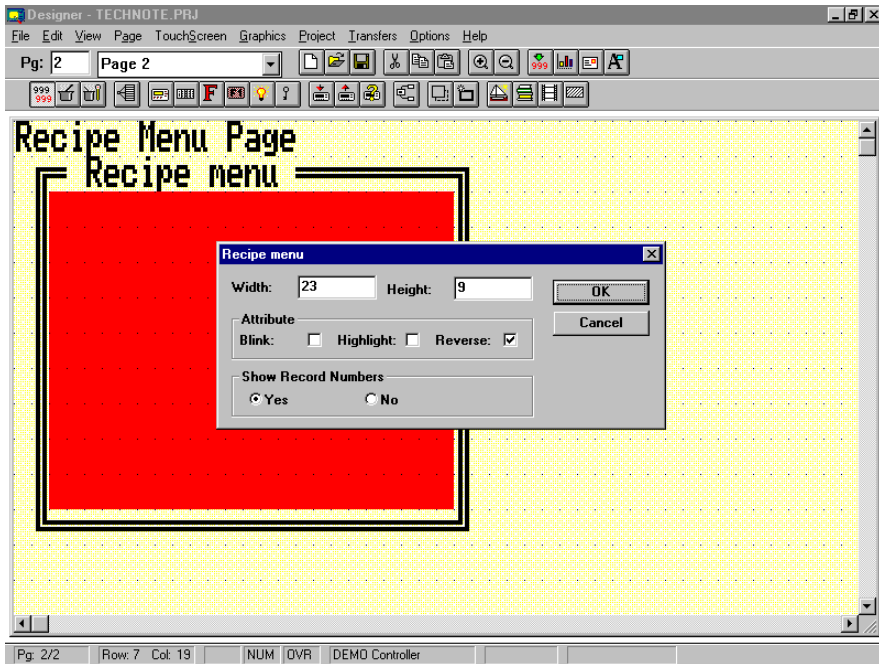

Figure 12-5
3. Double click on the Recipe Menu field to open the Recipe Menu dialog box (see Figure 12-5).